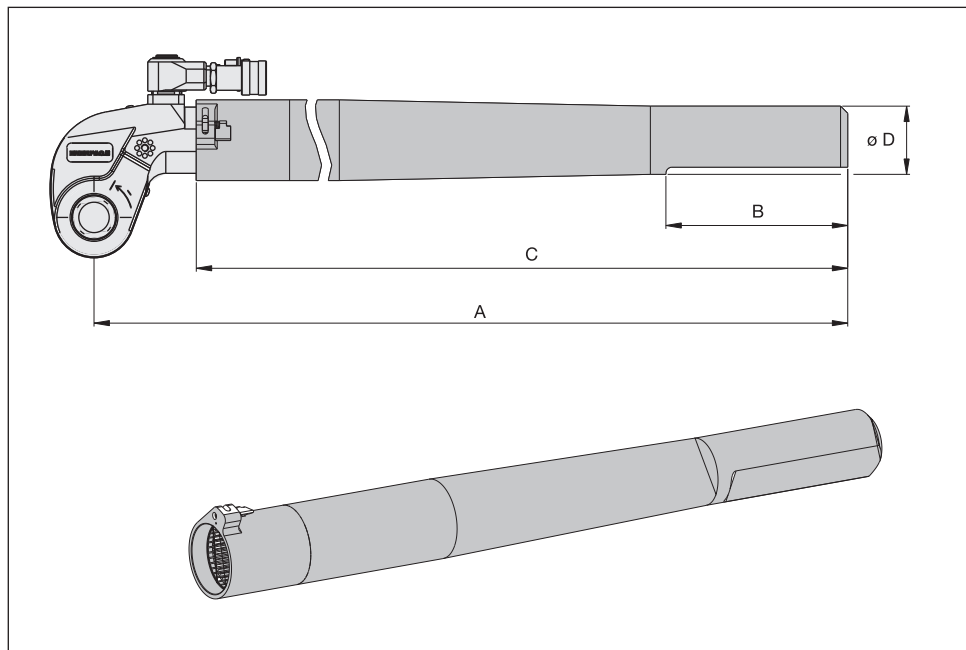

Fig. 31
6.5 Dimensions and Specifications, RTE Series Reaction Tube Extensions (Fig. 31)